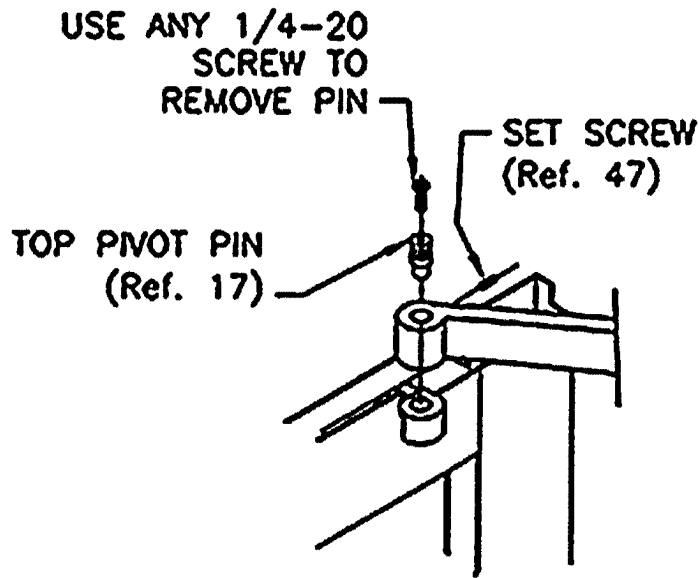

FIG. 5
9. Guide bottom arm around to the interior side of the entrance, engage the guide roller in track in the header, slightly close the door to align the top door pivot with the top arm. Be careful not to nick up the guide roller while guiding it into the track. Spring top arm up slightly if necessary, and insert top pivot pin (Ref. 17). Tighten set screw (Ref. 47). See FIG. 5